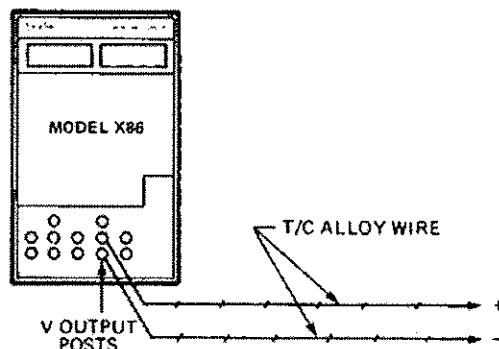

**Figure 3-4:** Thermocouple Simulation Using External Reference Junction
**3.3.1 External Reference Junction:** If an external reference junction is to be used, connect the Model X86 and the reference junction as shown in Figure 3-4.